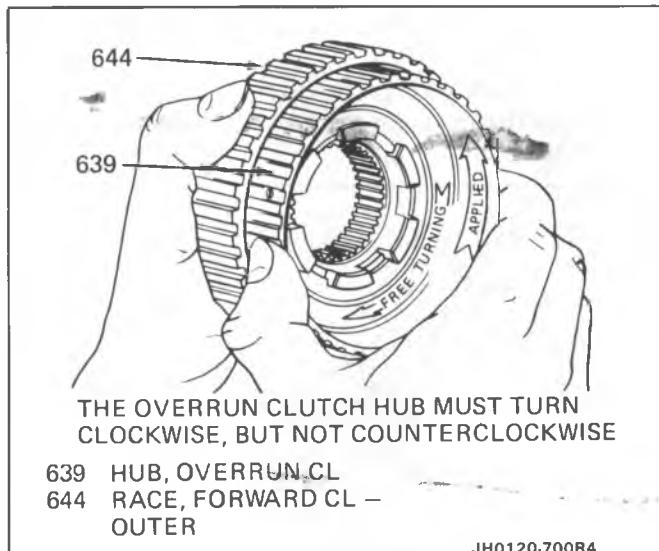

Figure 72 Check Sprag for Proper Operation
- Forward clutch sprag assembly (642) into the outer race
- One sprag retainer ring (643) onto the race and retainer assembly
5. Overrun clutch hub (639)
6. Overrun clutch hub retaining snap ring (638) into the snap ring groove of the race and retainer assembly
7. Test the assembly for proper operation as shown (Figure 72).